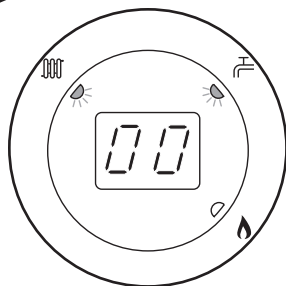
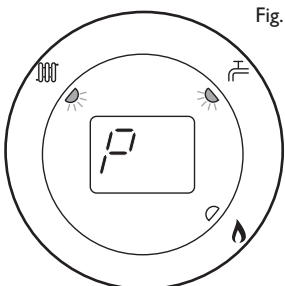

Fig. 38
Fig. 39
5. Turn CH temperature control knob fully clockwise. As the knob is turned the display will change from '0' to '00' (Fig. 38) indicating maximum rate, then revert to 'P' alternating with the current boiler temperature (Figs 39 & 40).